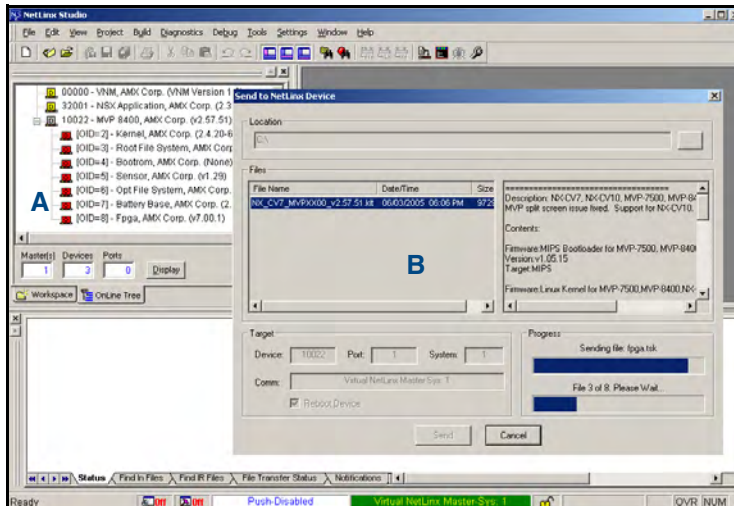

FIG. 38 Using USB for a Virtual Master transfer
7. Select **Tools** > **Firmware Transfers** > **Send to NetLinx Device** from the Main menu to open the Send to NetLinx Device dialog (B in FIG. 38). Verify the panel's System and Device number values match those values listed within the System folder in the **OnLine Tree** tab of the Workspace window (A in FIG. 38).
11. Click **Send** to begin the transfer. The file transfer progress is indicated on the bottom-right of the dialog (B in FIG. 38).